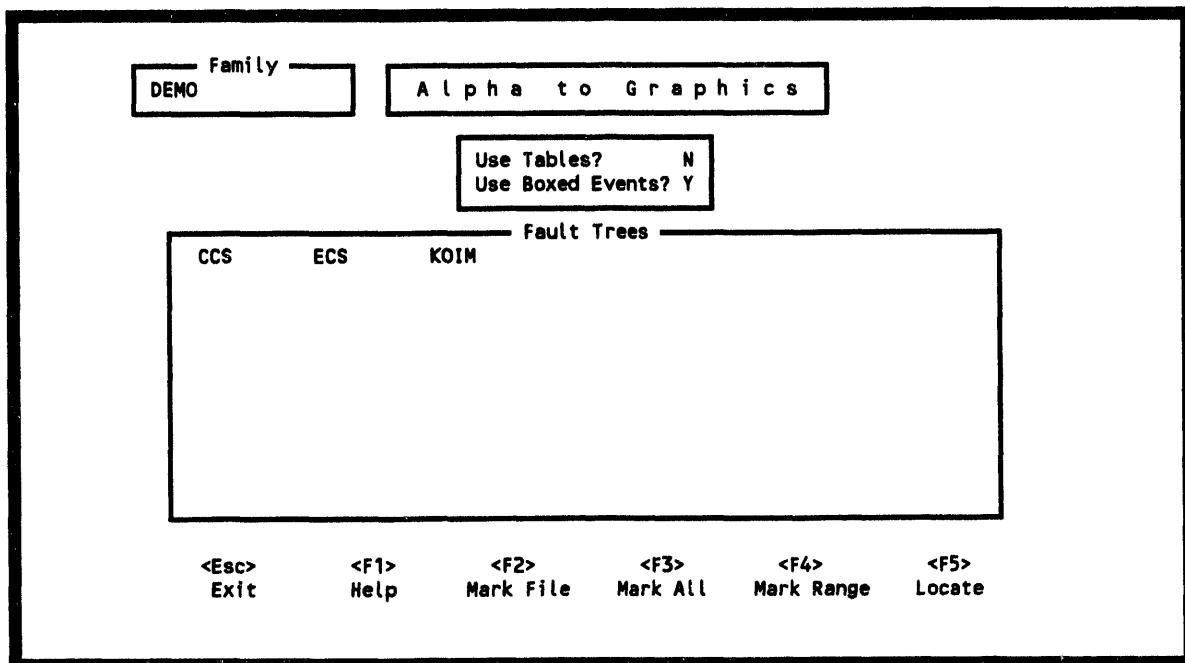

Figure 55. Set table/box toggle for conversion.
7.5.2.2 Convert. This option allows you to convert an alpha file(s) to a graphical format. To invoke this option, enter a <C> in the option field, highlight the file (using the arrow key) or mark the files (using the function keys) you wish to convert. A small window will appear at the top of the screen (as shown in Figure 33, Figure 55). Two prompts are displayed asking you whether you want to use tables and/or boxed events in the newly created graphic file. Enter a Y or N. Press <Enter> when complete. A message will appear notifying you that the graphics image has been created.